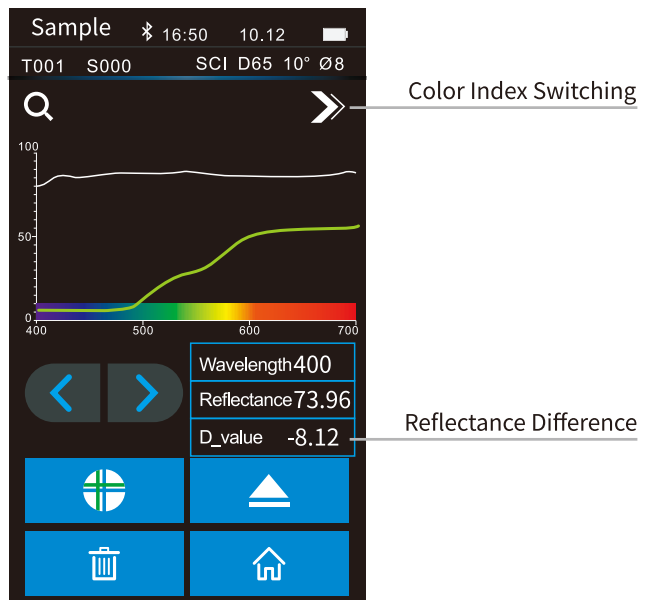

Figure 12 Sample measurement spectrum graph
6) Reflectance Difference: The difference between the measurement sample and the standard under the current reflectivity. As shown in Figure 12, click the button "**< >**", and the difference between the light wavelength of the currently measured sample, the reflectivity of the sample and the reflectivity of the sample standard will be switched at intervals of 10nm.